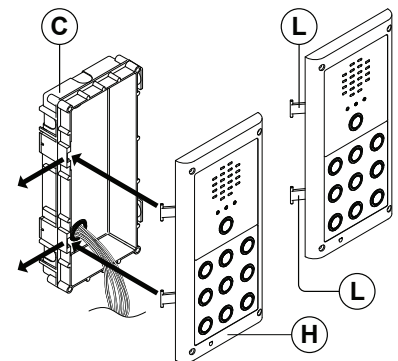
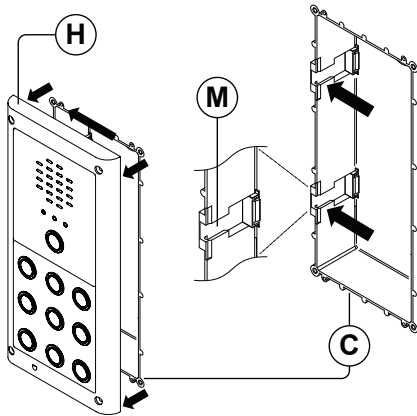

Fig. 63
Fig. 64
5. Take the frame's hinges (L) and hook the module support frame (H) to the flush box (C), starting from the left following the guide arrows, as shown in **Fig.63**. Ensure that the frame's hinges (L) (**Fig.63**) fit inside the relevant hinge mounts (M) inside the flush box (C), as shown in **Fig.64**;